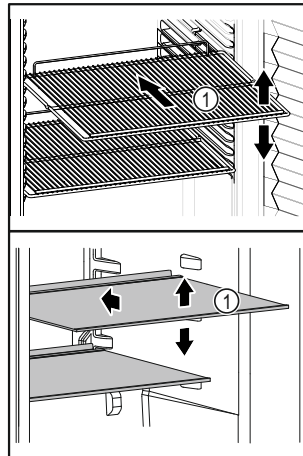

Fig. 34 Example illustration
- ❑ If storage surfaces Fig. 34 (1) are movable, adjust them according to height.